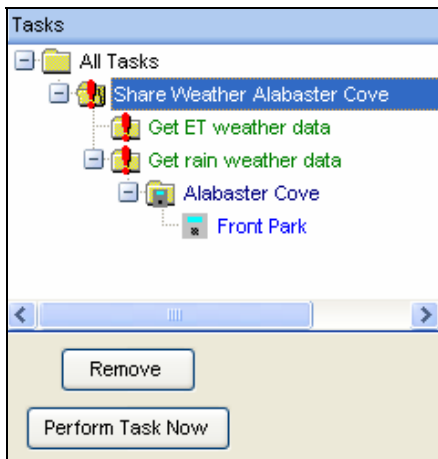

Figure 12.1.10
- Then left click on the controller holding down the mouse button drag and drop the controller into the **Get rain weather data** folder in the **Tasks** window. (Figure 12.1.10)